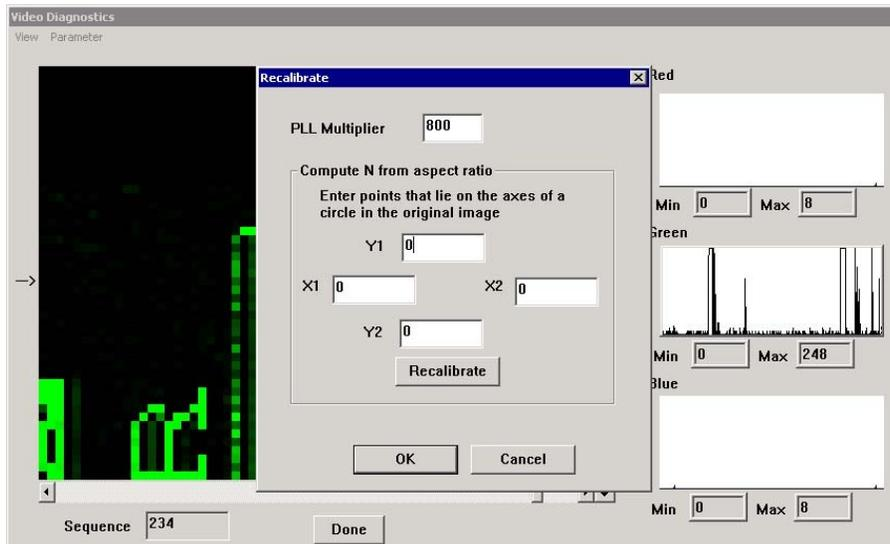

Figure 10-17 - Enter Recalibration Coordinates
- Open the Parameter > Sharpness > Recalibrate. In the Recalibration dialog box, **note the number currently displayed in the 'PLL Multiplier' text field** (for example, in *Figure 10-17 - Enter Recalibration Coordinates* the 'PLL Multiplier' number is '800'.)
- If the resultant image has improved but appears to need further recalibration, find the coordinates for the four (4) edges of the improved circle. If the resultant image appears to have worsened with the changes, open Parameter > Sharpness > Recalibrate, enter the previously noted 'PLL Multiplier' number ('800' in the example above), press "OK", and attempt to find the edge coordinates again.